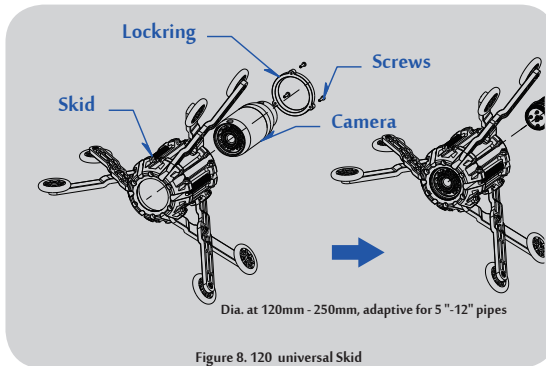

Figure 8. 120 universal Skid
2) 120 universal Skid (dia. at 120mm - 250mm, adaptive for 5 "-12" pipes) . (See Figure 8)